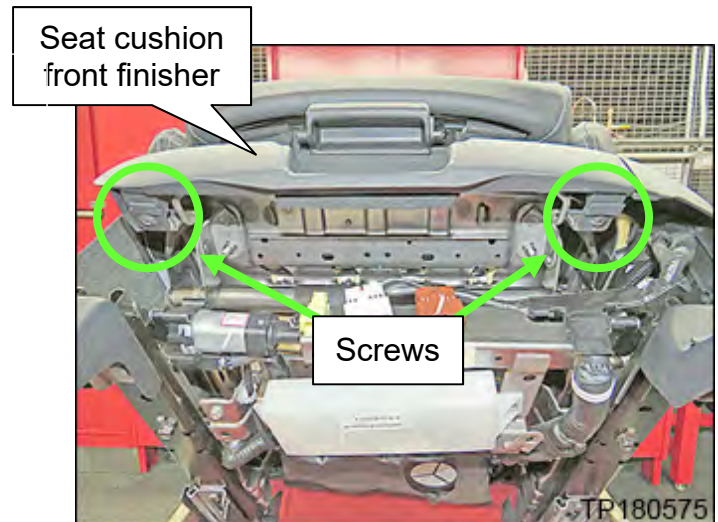

Figure 49
49. Install both of the seat cushion front finisher screws shown in Figure 49.